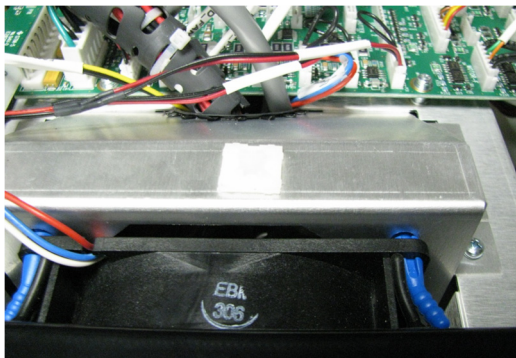

Figure 5 Install Harness Routing Strain Relief
7. Place the new harness routing strain relief in the location as shown in Figure 5 Install Harness Routing Strain Relief.
16. Install zip ties and reinstall the harness wrap as shown in Figure 5. **NOTE:** Make sure that the harness cables are tightly wrapped and placed in a low profile to prevent pinching when re-installing the Top Cover.